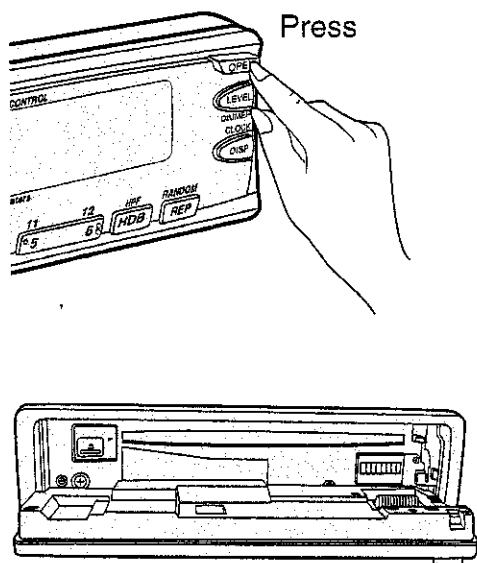

Fig. 4
- ① Switch off the power.
- ② Press **[OPEN]**. The removable face plate will be opened. (⇒ Fig. 4)